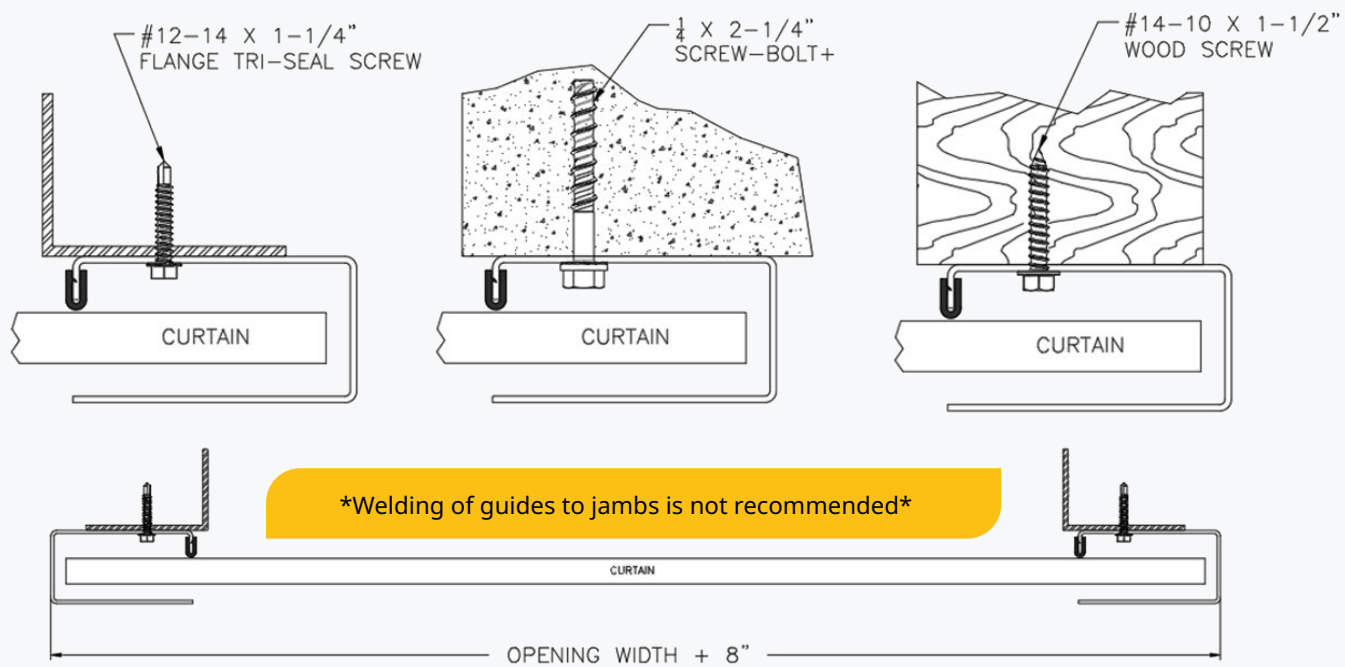

figure 15
- ✦ The guides should be positioned centered on the opening spaced curtain width +1" apart, measured from back of guide to back of guide. Both guides must be plumb and level. See **Figure 15**.